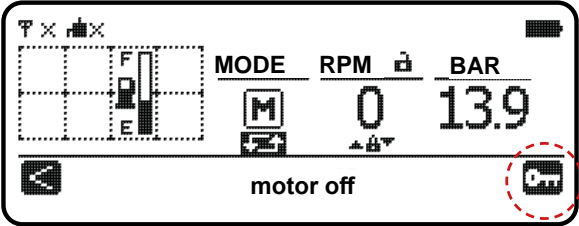

Fig. 41
- Press      to start or stop the motor-pump unit equipped with the Motormatic SE controller (Fig. 41).